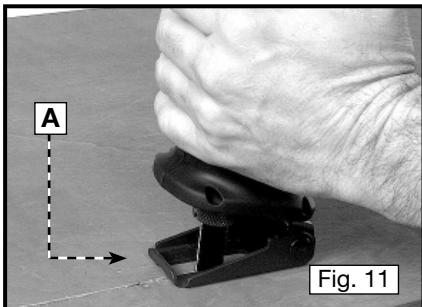

Fig. 11
The guide shoe (A) Fig. 11 serves as a rest while making a cut. It pivots, allowing you to gradually raise the saw handle so that the blade is perpendicular to the work.